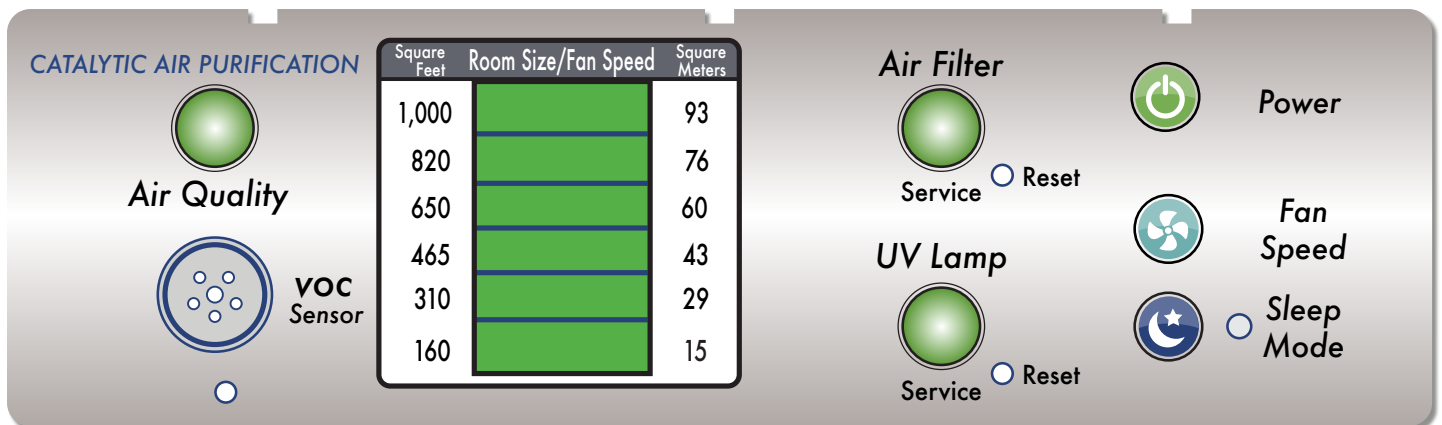

Figure 1
1. Press the Power (ON/OFF) button to turn on the V-PAC™ SC unit. Lights on the control panel (figure 1) will turn on as well the UV-C germicidal ultraviolet lamp.
Press the "**Fan Speed Button**" (figure 1) until the green LED bar light underneath "**Room Size/Fan Speed**" reaches the corresponding size of your room. Calculations in both "**square feet**" and "**square meters**" (length x width) measurements are conveniently listed at either side of the green LED bar lights. Correctly setting this indicator will keep the air volume at an optimum level.
4. Press the "**Sleep Mode Button**" (figure 1) at night if you desire to reduce fan noise.
Air quality (level of VOCs) is sensed in real time by the chemical-detection sensor (see figure 1 on page 4) which continually evaluates air quality. Air quality is expressed by one of (3) colors on the air quality LED light.